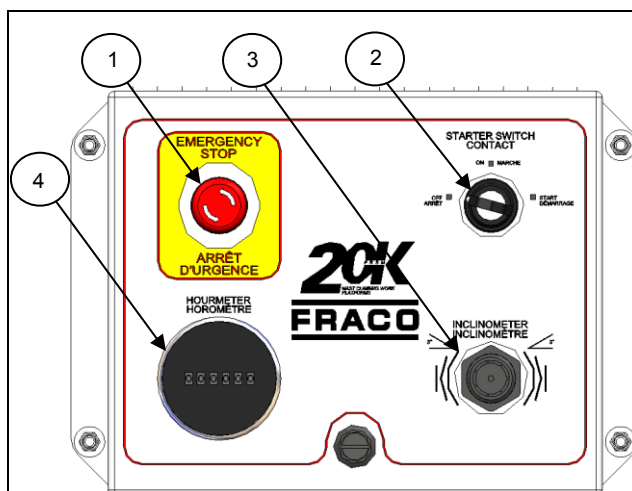

Figure 27 - FRSM-20K control box
- All loads likely to slip or fall from the platform must be secured. Keep the platform free of debris, rubbish, snow, etc. Make sure that no tools or other objects extend beyond the outer perimeter of the platform limited by the planking and guardrails. You can stop operation at any time by pressing the **EMERGENCY STOP** button (see **Figure 27** and **Figure 28** ON PAGE 28). In the event of breakage or malfunction, secure the platform.
- 2- Make sure the « emergency stop button » (see Figure 27) is released.
- 12- Turn the « CONTACT » key (see Figure 27) to the « START » position.
- 2- Make sure the « emergency stop button » (see Figure 27) is in released position.
- 8- Turn the « CONTACT » key (see Figure 27) to the « START » position.
-You can press the « emergency stop button » at any time (see Figure 27). The platform will stop automatically.
Inclinometer sound alarm (See Figure 27):
The « **Emergency stop button** » (see Figure 27) may be used at any time when the operator deems that the situation warrants it.